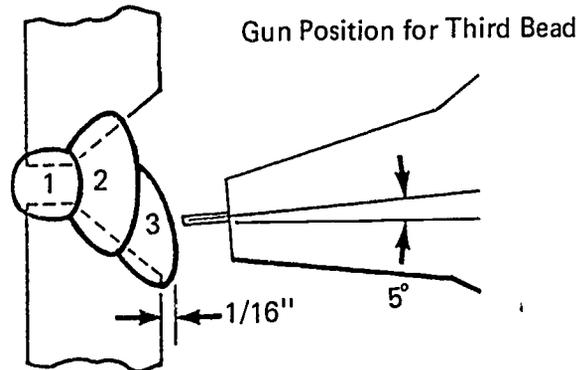

FIGURE 10
- N. Weld third pass with electrode angled 5° down from horizontal with weld face crown $1/16''$ higher than plate surface and lapped $1/16''$ over bottom edge of groove (Figure 10)